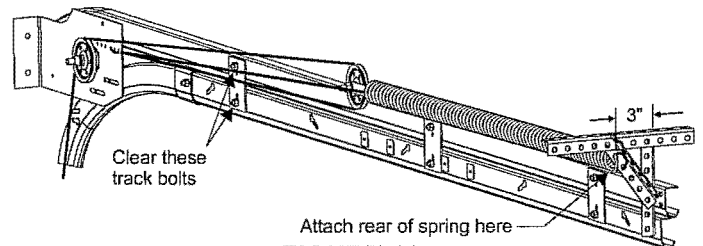

FIGURE 11
- Follow the Extension Spring installation instructions for standard track on pages 13-14. Hook one end of each extension spring into each sway brace or ceiling angle. Space the spring approximately 3 inches from the hanging angle in order to clear the track bolts on the horizontal tracks. (See Figure 11)